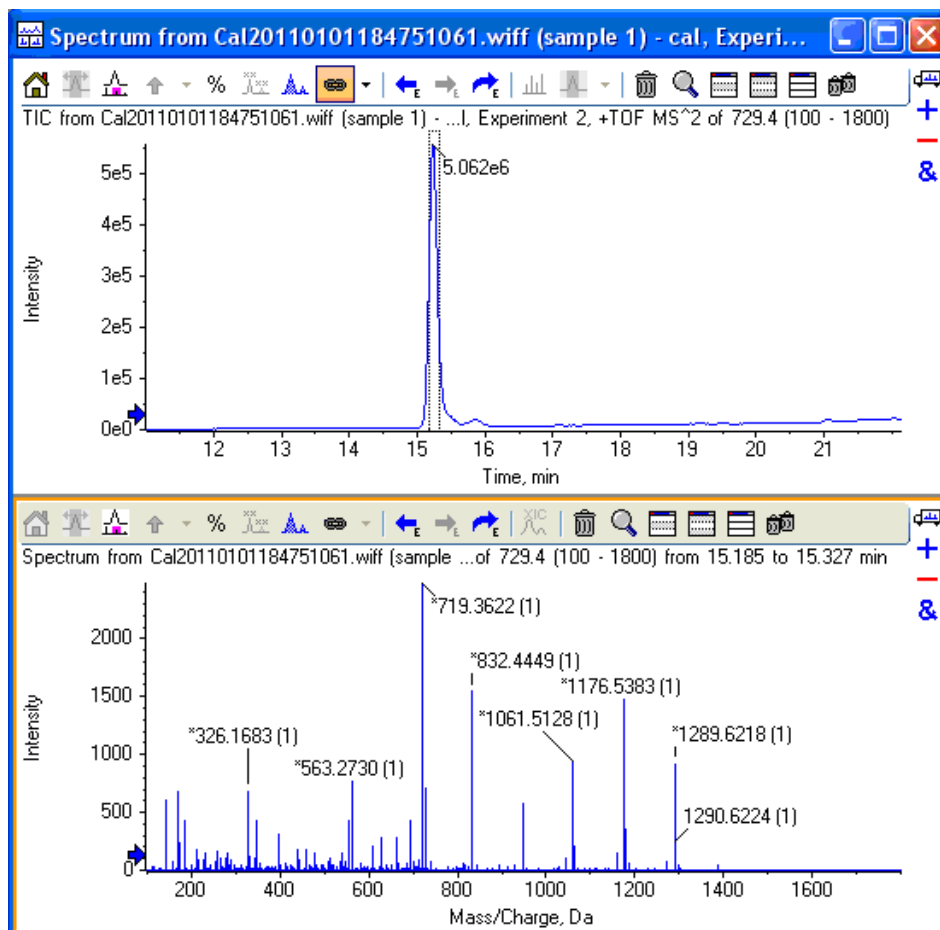

Figure 1-27 TOF MS/MS XIC of m/z 729.3652 peak
2. Select the MS/MS scan, and then select **Remove all Traces Except Active** to display the pane shown at the bottom of Figure 1-27.
4. Make sure the MS/MS spectra looks as shown in Figure 1-27 with fragment ions across the whole mass range.